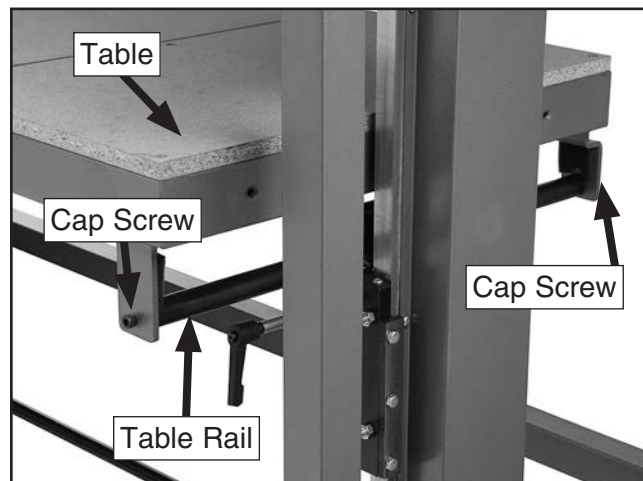

Figure 25. Table mounting.
15. With the help of an assistant, place the table over the table rails and secure it with the (4) $\frac{5}{16}$ -18 x $\frac{3}{4}$ " cap screws and $\frac{5}{16}$ " flat washers (**Figure 25**).